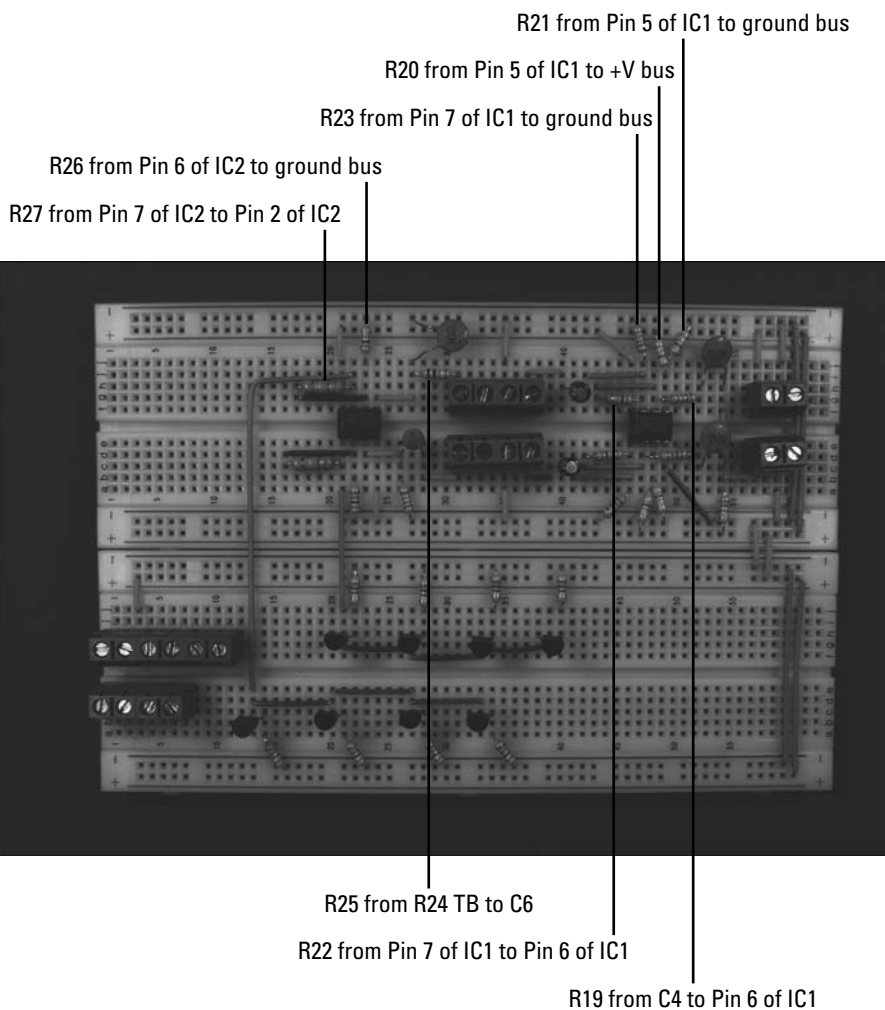

Figure 5-13:
10. Insert one 2 kohm resistor (R19), two 47 kohm resistors (R20 and R21), one 100 kohm resistor (R22), one 5 kohm resistors (R21), two 1 kohm resistors (R25 and R26), and one 220 kohm resistor (R27) on the breadboard, as shown in Figure 5-13.